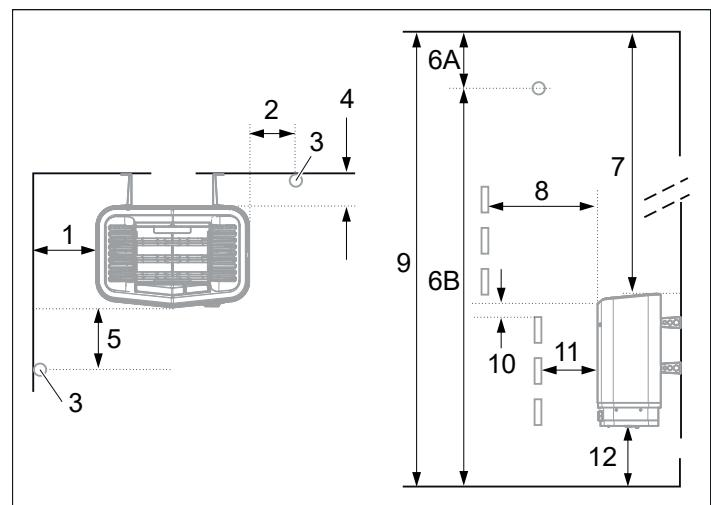
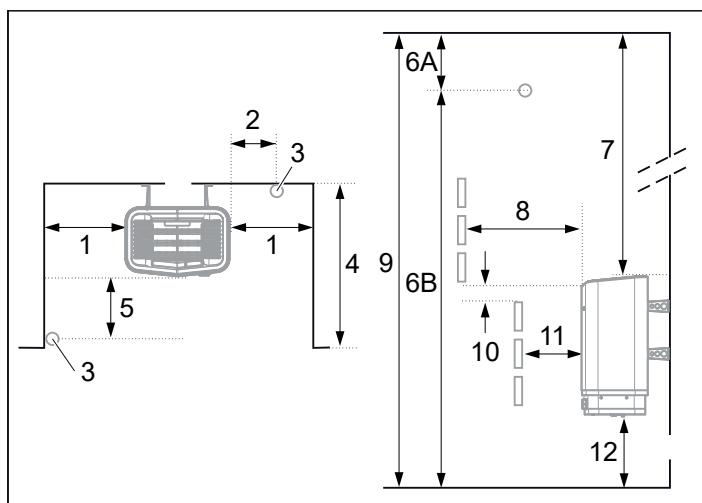

Figure 5: Positioning the heater - normal installation
Figure 7: Positioning the heater - recess installation
- Plan the sensor positioning (see Figure 5, page 14 and Figure 7, page 15).
- on the same wall as the door (or the side wall if very close to the door wall). The heater may also be placed in a recess (see Figure 7).
- Position the heater at a safe distance from the floor, side walls and interior fittings (see Figure 5).
Position the sensor according the picture (see Figure 5).
1. Position the heater at a safe distance from the floor, side walls and interior fittings (see Figure 7).
2. Position the sensor according the picture (see Figure 7).